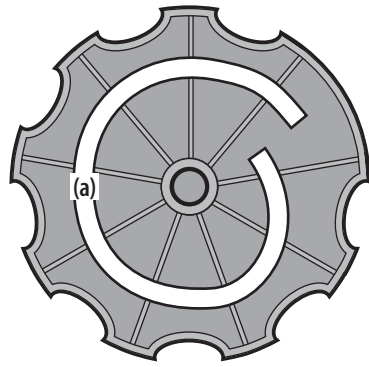

Figure 2-13
- Then align the spiral (a) on the inside of the recliner knob with the recliner pin. Make sure the hub on the back of the recliner sits properly into the large holes of the side plate. See Figure 2-13.